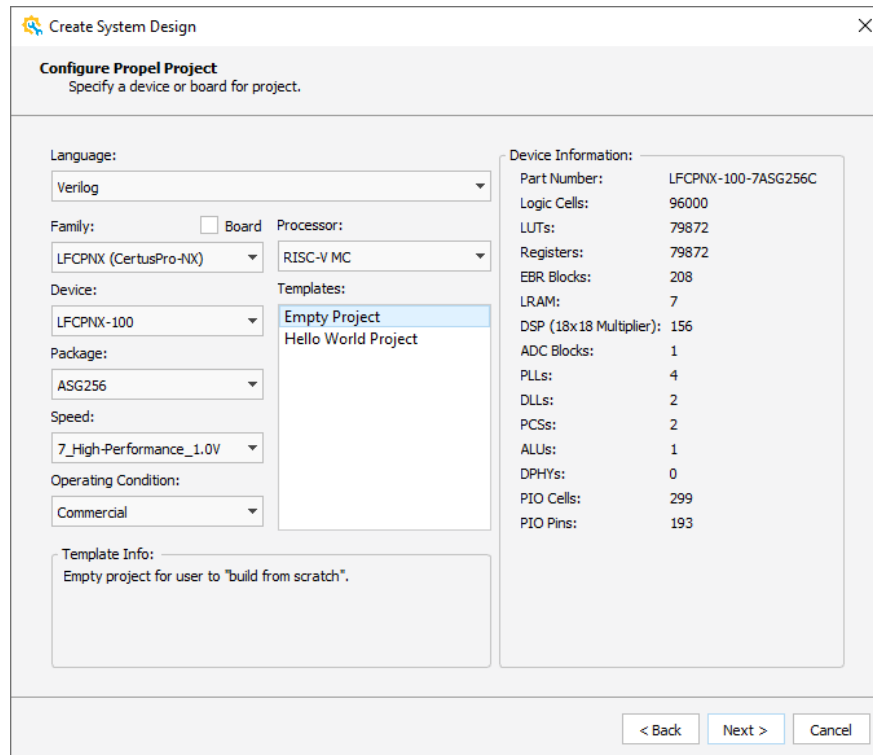

Figure 2.3. Create System Design – Configure Propel Project Wizard
5. Click **Next**. The Create System Design - Configure Propel Project wizard opens (Figure 2.3).